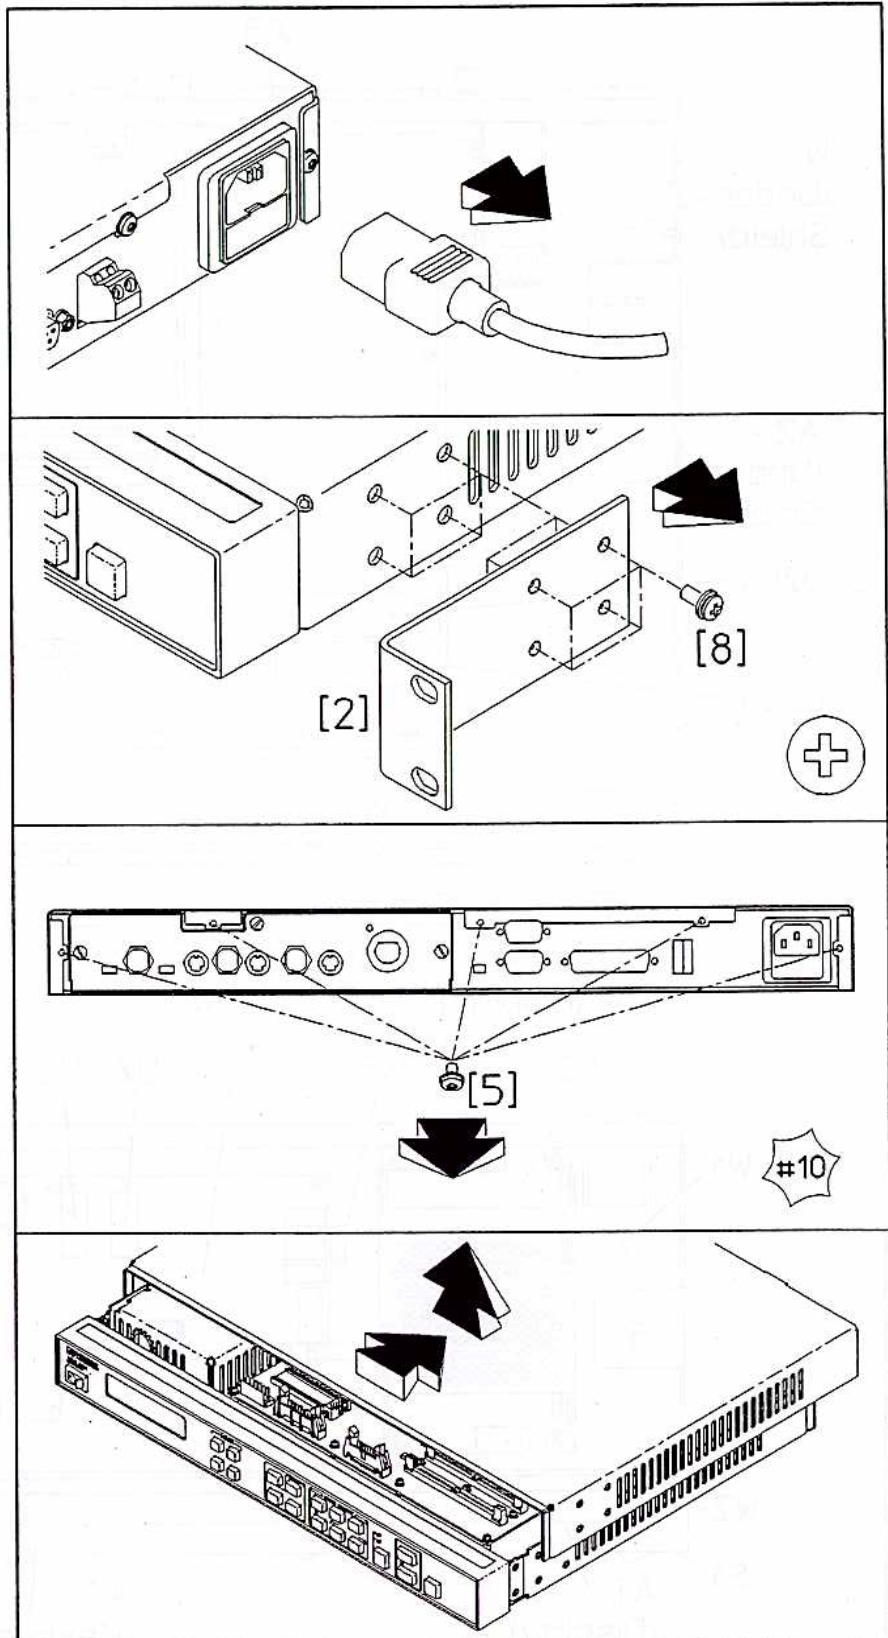

Figure 3-2. Cover Removal
2. Remove the cover as shown in figure 3-2.
The procedures do not have to be performed in the order listed, although multiple procedures may be needed to remove an assembly. Each procedure contains all of the information necessary to remove the assembly. This does not mean that all of the instructions will be found in the procedure. The first panels of the procedure may direct you to another procedure in order to gain access to a part before continuing. For example, for every procedure, access to the interior of the instrument is required through removal of the instrument cover. Thus, the first panel of a procedure may remind you to perform the “Cover Removal” procedure found in figure 3-2.
See disassembly procedure in the figure indicated. (Figure 3-2 shown)